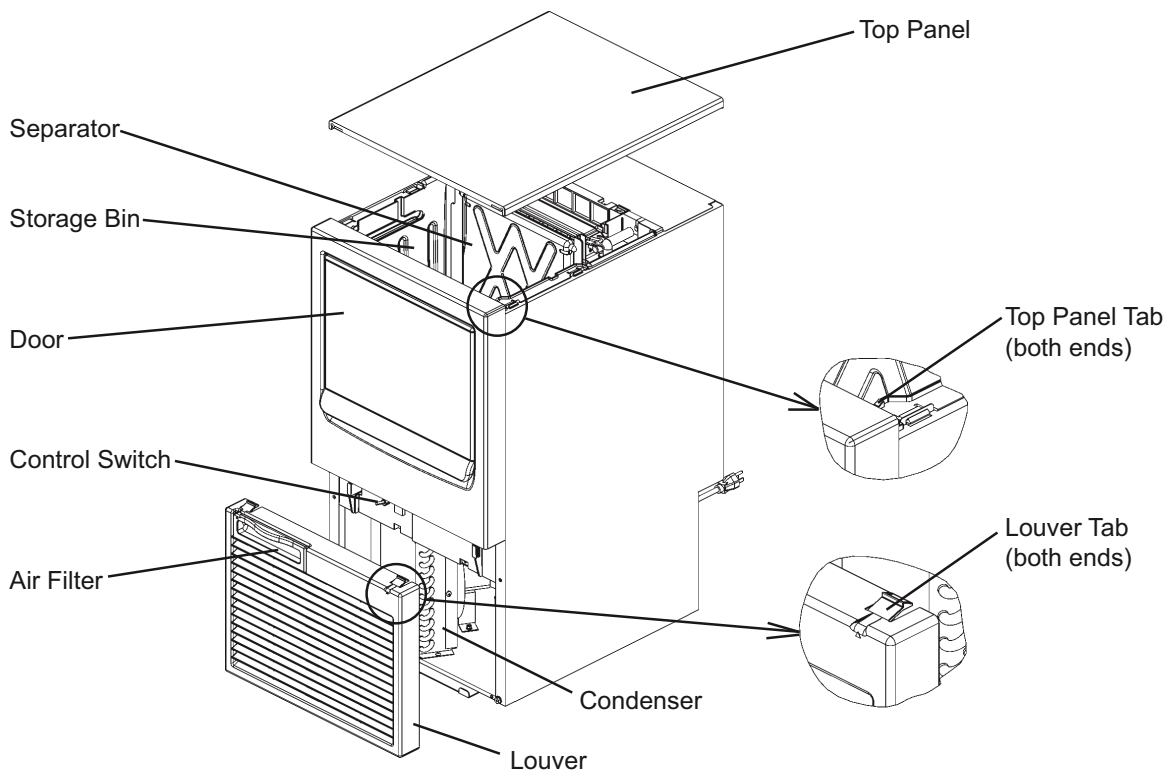

Fig. 1
3. Remove the shipping tapes holding the Door and Separator. See Fig. 1.
B. How to Remove Panels - See Fig. 1